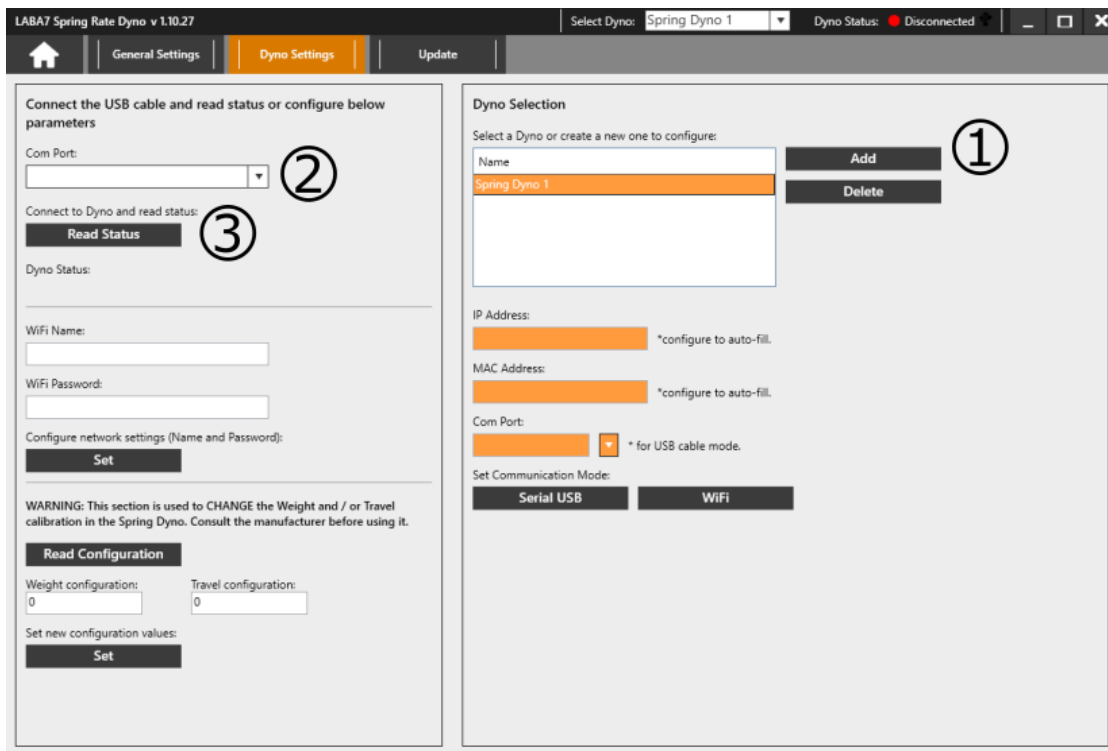

Figure 11
5. Add a new Dyno model by clicking the Add button (Figure 11 – Step 1).
9. Select the newly appeared Com Port of the connected Dyno from the drop-down menu (Figure 11 – Step 2).
10. Click on the Read Status button (Figure 11 – Step 3).